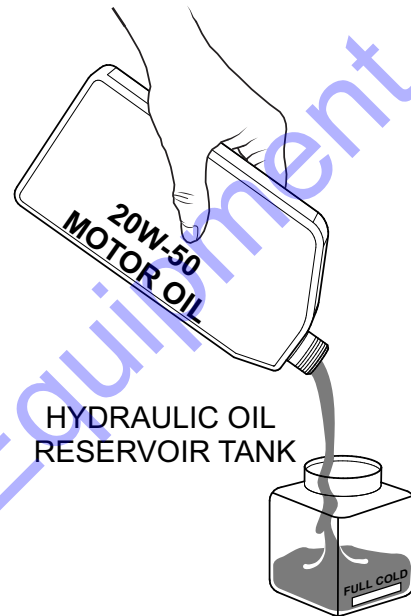

Figure 40. Hydraulic Oil Reservoir Tank
2. Visually inspect the hydraulic oil level by reading the hydraulic oil level (Figure 40) indicated on the hydraulic oil tank.